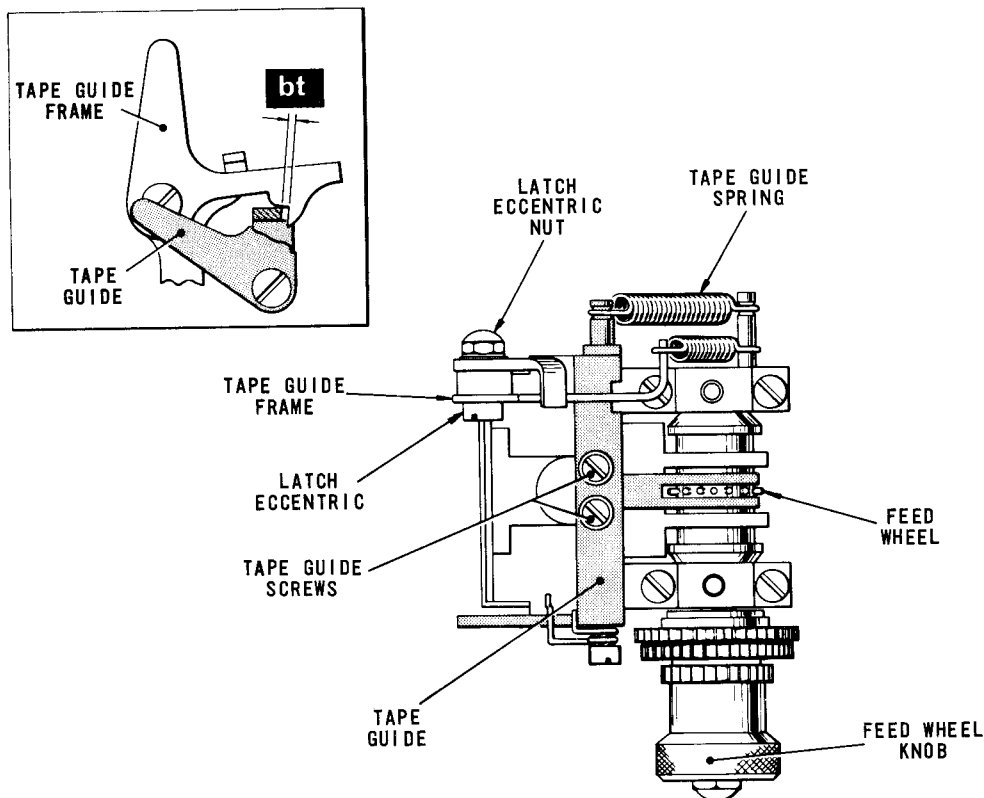

Fig. 4.82 TAPE GUIDE AND LATCH MECHANISM
102.1 Check that the slot between the tines of the tape guide, Fig.4.82, is centrally disposed about the teeth of the feed wheel.
- (b) Lift the tape guide, Fig.4.82, and turn the feed wheel knob, noting the force required to do so.